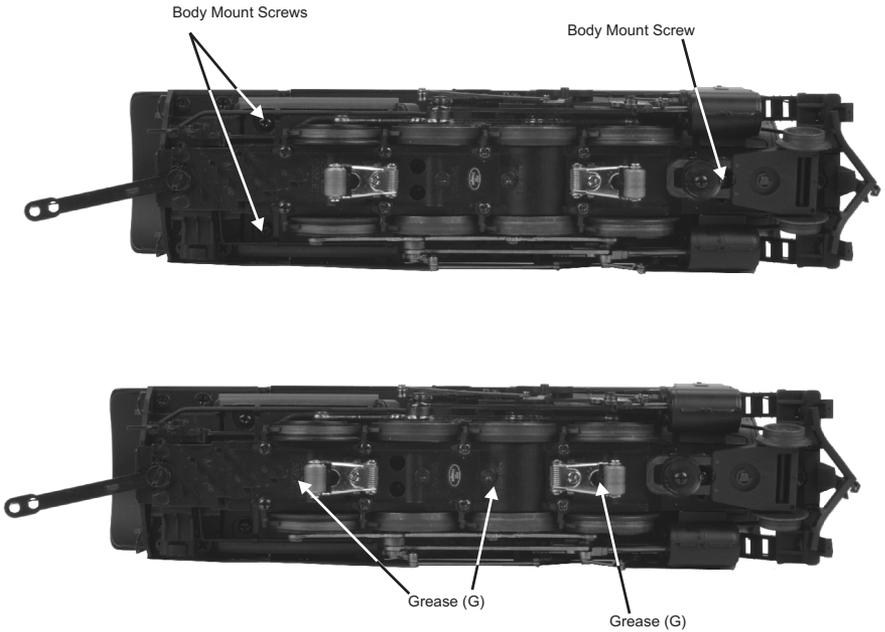

Figure 9. Removing the Body and Lubricating the Grease Points
2. Remove the Phillips screws (marked “GREASE”) located at each set of wheels and under pick up rollers (Fig. 9).
If you experience poor or no smoke output when the smoke unit is on and has fluid, check the wick to see if it has become hard, blackened, and unabsorbent around the heating element. To remove the smoke unit you will first have to remove the boiler shell (by removing the body mounting screws shown in Fig 9 on pg. 15), board and bracket that block the smoke unit assembly from being accessed. To do this, follow these instructions: